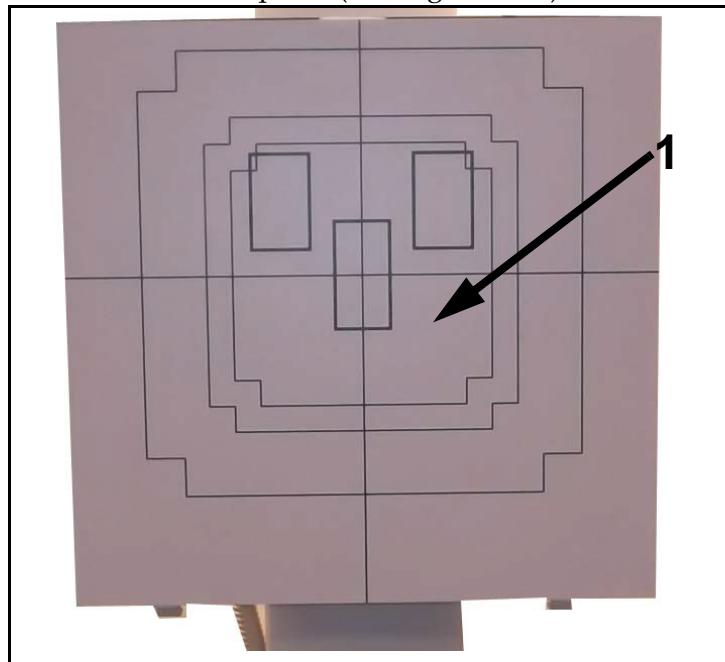

Figure E-18. Front Panel Installation.
- 20** Reattach front panel (1 in Figure E-18).